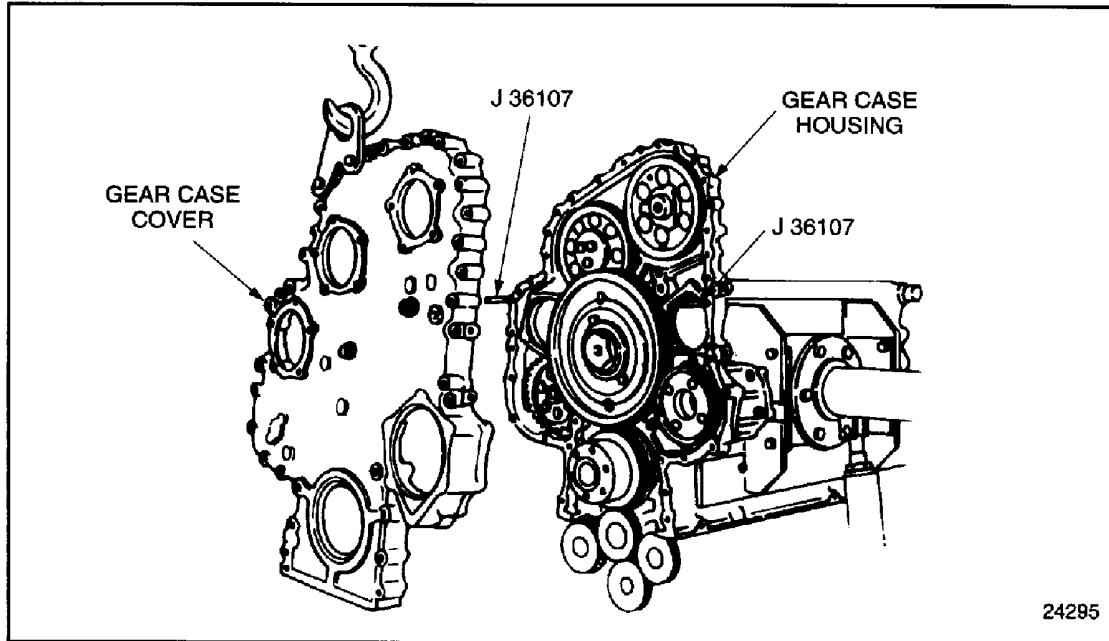

Figure 1-179 Gear Case Cover Removal
7. Refer to Section 1.10.2, for case cover removal and perform the steps up to but not including, supporting the gear case cover with a suitable lifting device. For the final step, refer to step 15. See Figure 1-179.